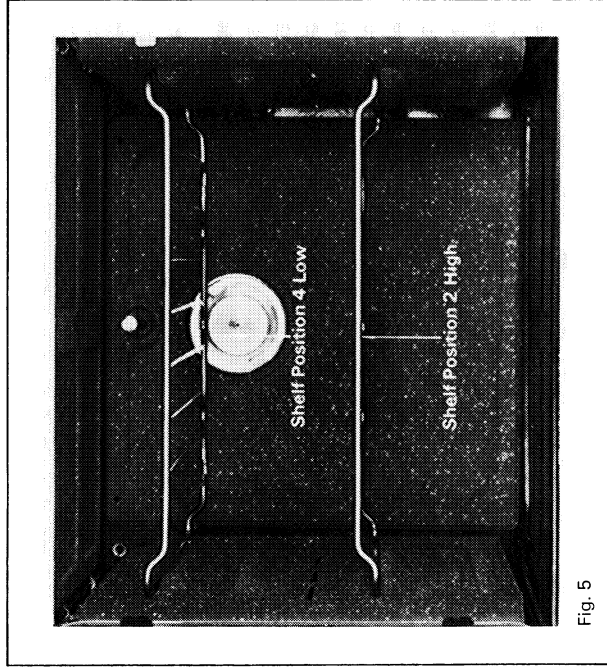

Fig. 5
2. Before switching the oven ON, arrange the shelves in position. Both shelves are reversible, providing a variety of positions when placed high or low in the runners (see fig. 5). The runners are numbered from the bottom upwards. In addition non-critical dishes can be cooked on the floor of the oven.